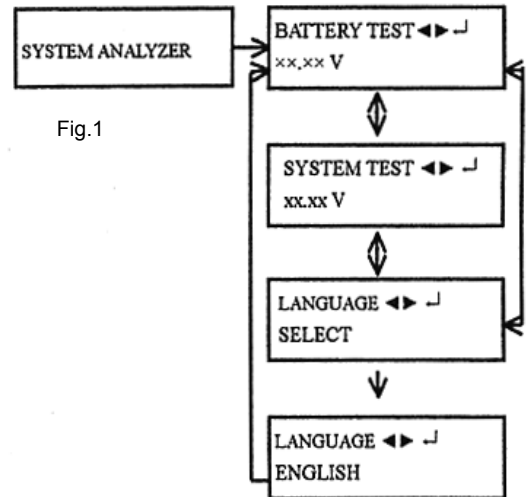

Fig.1
3.2.2 Use the < (forward) and > (backward) buttons to cycle between System Test, Language Select, and Battery Test. (Fig. 1)